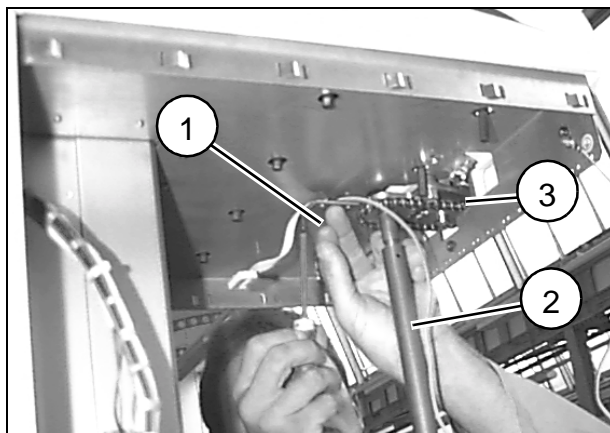

Fig. 14
- Remove the upper cover with the control panel; to do this, lift the cover over the lifting column and carefully pull it off over the control lever at the same time pulling the connector of the control panel cable carefully through the rectangular opening (1/Fig.14).
- Knock the spring pin out of the steering linkage (2/Fig.14).
- Disconnect the control lever unit and remove it (3/Fig.14).